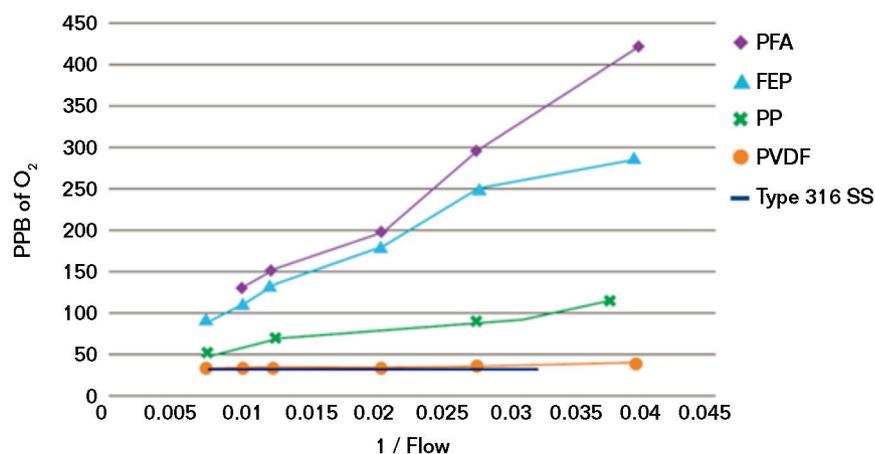

FIGURE 1 Oxygen permeation of tank materials.⁶
For areas where plastics are used as linings, there are two principal reinforcement materials, metal and fiberglass. Common metal substrates include aluminum, carbon steel (CS), and stainless steel (SS) (Types 304 SS [UNS S30400] and 316 SS [UNS S31600]). One important characteristic of a plastic is that a liner in these systems has low permeability. This minimizes the risk of chemicals moving through the liner and becoming trapped between the liner and the outer shell, causing issues with blistering and delamination. Figure 1 shows the permeation rates of oxygen gas through various plastic materials. Oxygen is representative of a small molecule, thereby showing tough testing conditions.